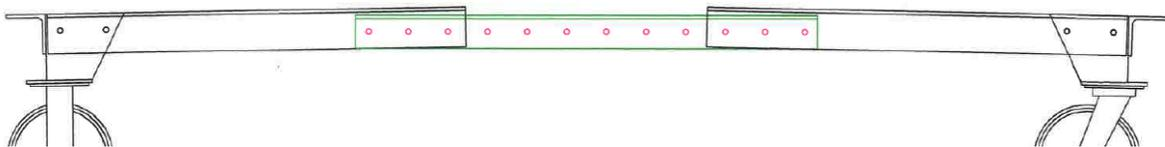
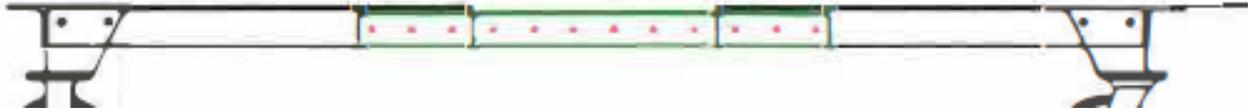

Figure 3. Slanted Side Rails
Figure 4. Straight Side Rails
Step 8: If you see a slant in the side rails (Figure 3) then lift up on the center side rail and tighten bolts until level (Figure 4).